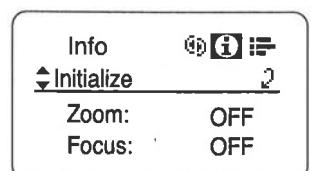

Fig7-4
3. Move the down key twice, and then press the Set key. The display is switched to the Initialize screen.(Fig.7-4)